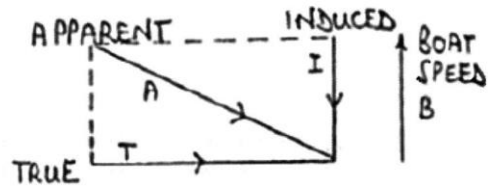

Fig 3
b) **Apparent Wind:** In looking at sail theory and the setting of the sail controls I considered the wind as if it was coming from one fixed direction, the true wind, which is, in fact, only true whilst the boat and rig is stationary. Once the boat is moving, it creates a wind equal in speed and of opposite direction to its own movement and course. This induced wind (I) then interacts with the true wind (T) to create an apparent wind (A) which will lie between the true and induced winds in proportion to their strength, (fig 3).